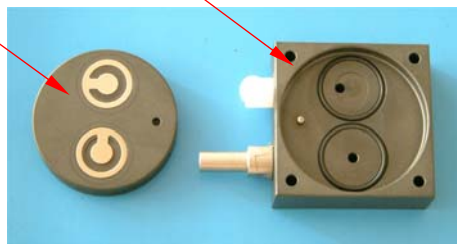

Fig 3
5.7 Carefully fit valves (qty 2) into pump head (Fig 3).
5.8 Carefully fit “O” ring seals (qty 2) into pump connecting head (Fig 3).